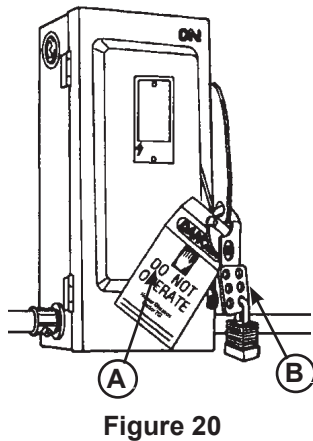

Figure 20
When working with electrical or electronic controls, make sure that the power source has been tagged (A) and locked out (B) according to OSHA regulations and approved local electrical codes (see Figure 20).